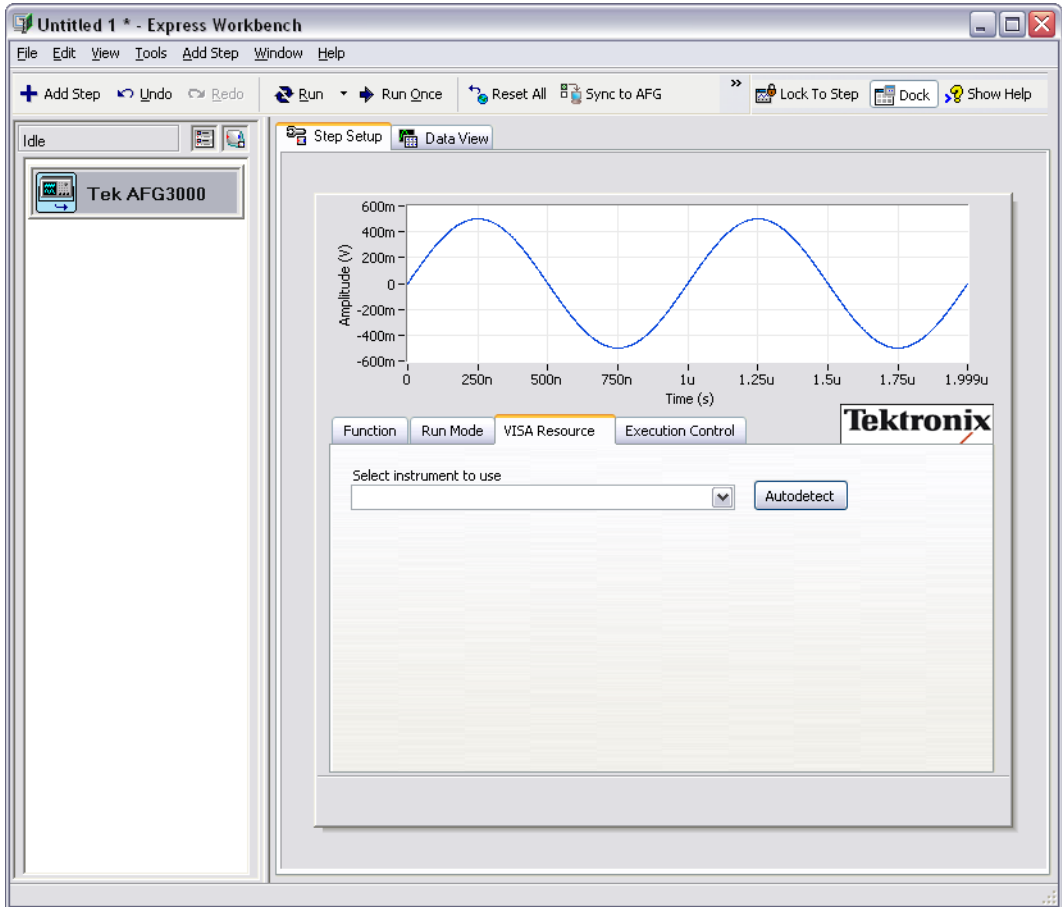

Figure 3-7. Autodetect Tektronix AFG3000 Series Arbitrary/Function Generator Ethernet Connection
- Click the **Add Step** button, shown at left, and select **Tektronix»Generate Signals»Tek AFG3000**. The Tektronix AFG3000 series arbitrary/function generator **Step Setup** dialog box launches, as shown in Figure 3-7.